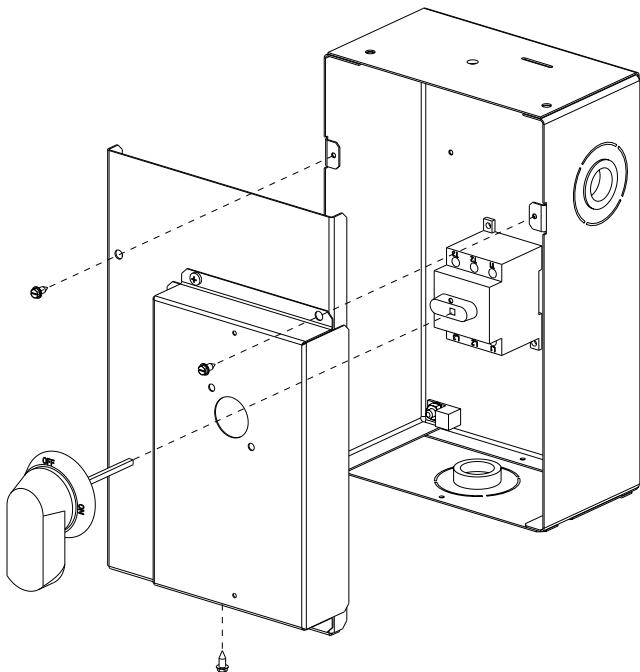

Fig. 25 — Handle and Shaft Assembly for NFD
2. Remove (3) hex screws on the NFD enclosure - (2) on the face of the cover and (1) on the bottom (see Fig. 25).
9. Secure the handle to the painted cover with (2) screws and lock washers supplied.
10. Engaging the shaft into the handle socket, reinstall (3) hex screws on the NFD enclosure.